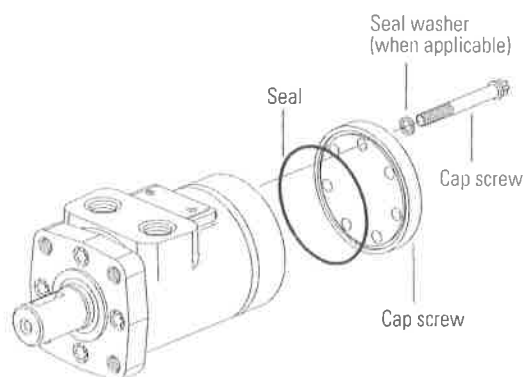

Figure 2
2. Remove cap screws and seal washers (when applicable – see Figure 2).